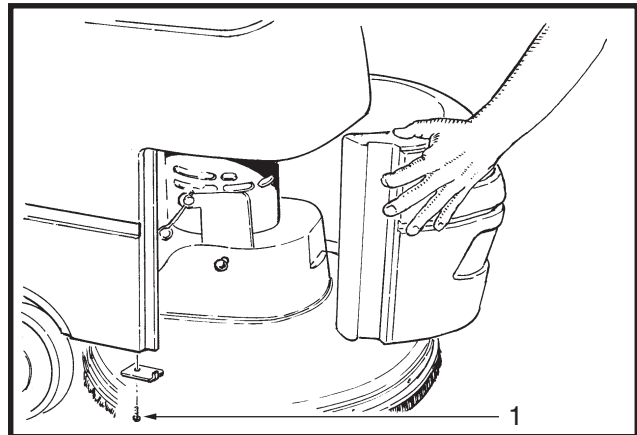

Figure 5a
4. Using a short Phillips screw driver, loosen the latch screw enough to allow the retainer to be free of the cover. (See figure 5a, 1)
5. Open the brush motor cover and remove the brush housing. See figures 5a and 5b.
4. Open the brush motor cover and remove brush housing. See figures 5a-5c.